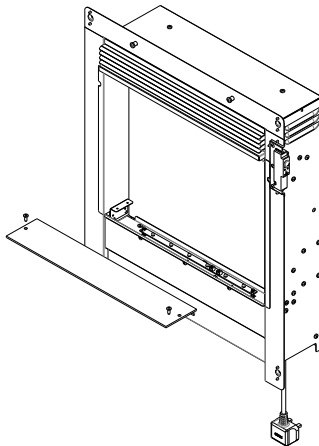

Figure 1
- Unscrew the two self-tapping screws ST4 x 12 on both sides of the fuel bed and remove the fuel bed as shown below in figure 1: